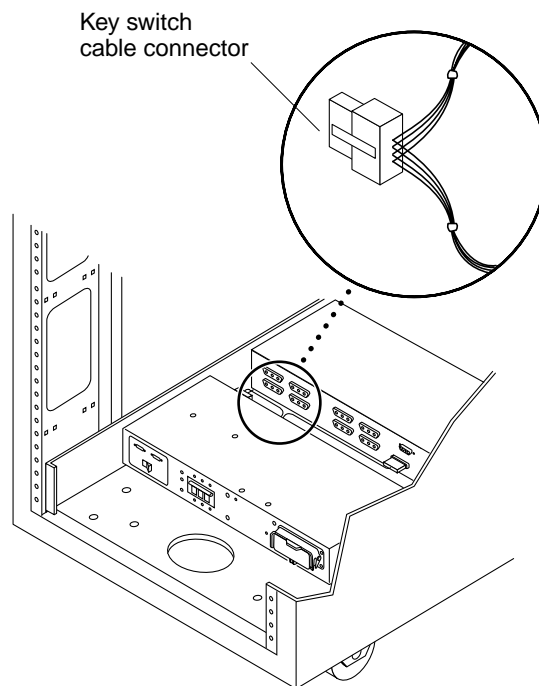

FIGURE 6-7 Key Switch Cable Connector
2. Disconnect the key switch cable connector from the cable adapter cable connector near the back of the power sequencers (FIGURE 6-7).
4. **Connect the key switch cable connector to the adapter-cable connector near the back of the power sequencer (FIGURE 6-7).**